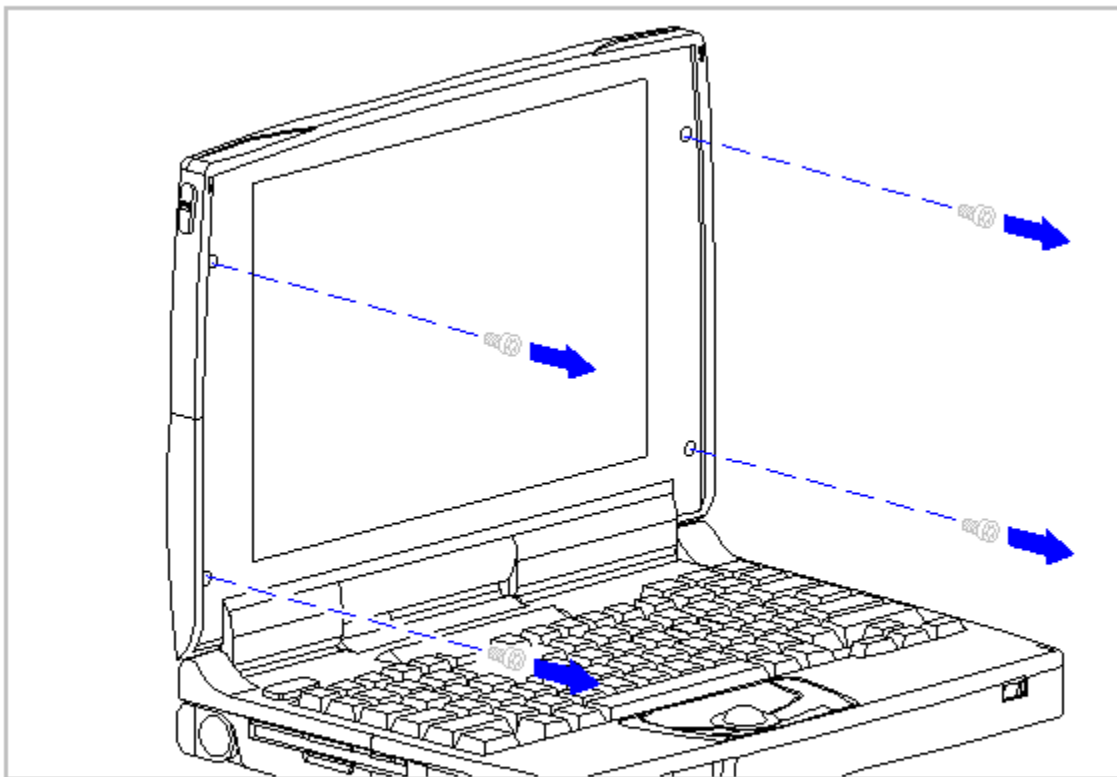

Figure 5-71. Removing the Display Bezel Screws
3. Remove the four screws from the display bezel (Figure 5-71).